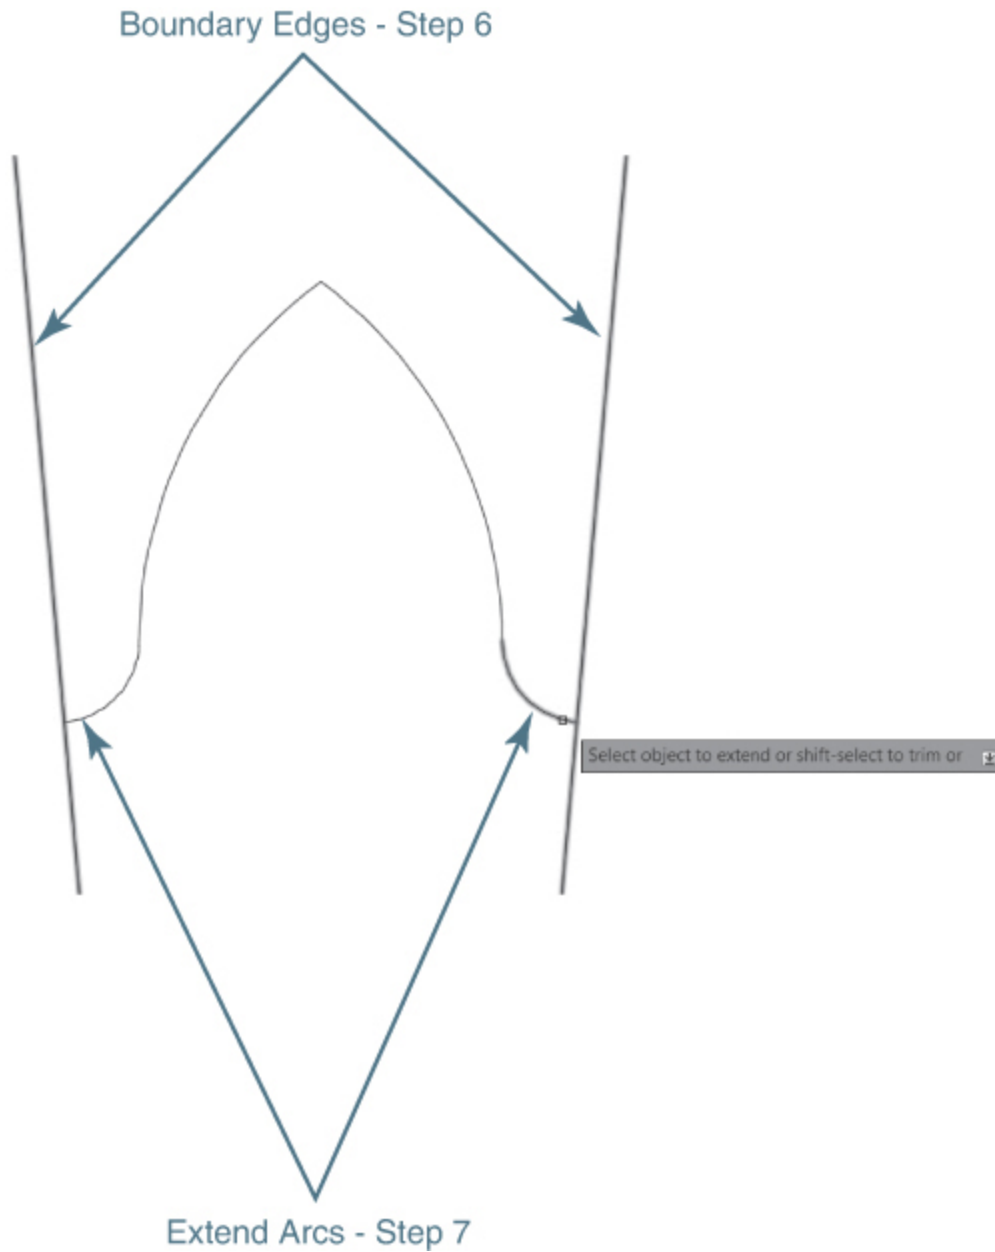

Figure 8-24
- 7** AutoCAD prompts you to *Select object to extend or shift-select to trim or ↓*. Pick the two small arc segments nearest to the angled lines selected in step 6 as shown in Figure 8-24 so that the arcs extend out to meet the boundary edges.